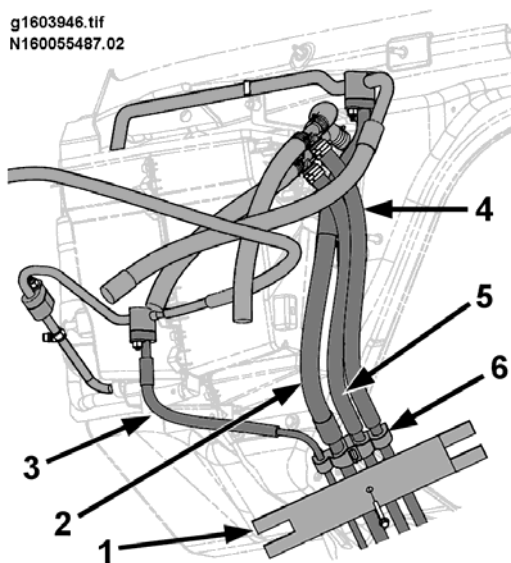

Figure 46 Heater/AC Hose Connections Under Hood
8. Under the hood, disconnect the heater line being replaced from the 'T' fitting where it connects to the front heater line (Figure 46). Plug all open lines.
9. Remove the front hose hanger and retain the heat shield for use during installation (Figure 46).
2. Under the hood, connect the new heater line to the front heater line 'T' fitting (Figure 46).
7. Install the front hanger, including the heat shield removed earlier. Verify that heater and A/C lines are positioned correctly in hangers, without binding; then tighten hanger bolt (Figure 46).
2. Under the hood, disconnect the A/C line to the rear HVAC unit where it connects to the front A/C line. Plug all open lines (Figure 46).
6. Remove the front hose hanger and retain the heat shield for use during installation (Figure 46).
6. Install the front hanger, including the heat shield removed earlier. Verify that heater and A/C lines are positioned correctly in hangers, without binding; then tighten hanger bolt (Figure 46).